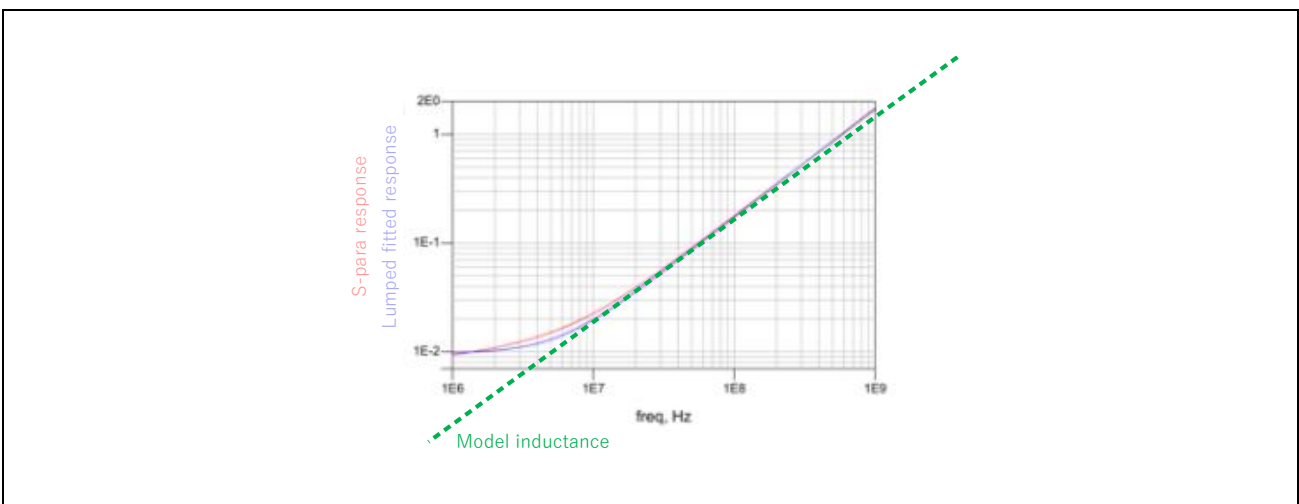

Figure A.4 Fitted Lumped vs S-Parameter Model Response
**Figure A.4** shows the fitted lumped model response compared to the S-parameter model response.